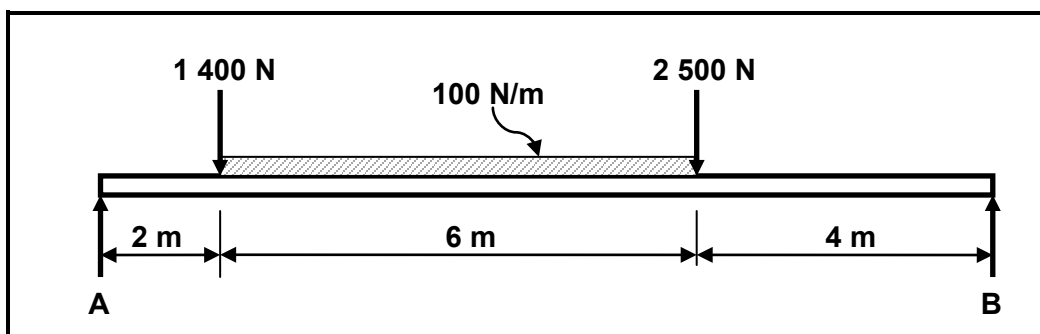

FIGURE 7.3
7.4 FIGURE 7.3 below shows a uniform beam that is supported by two vertical supports, **A** and **B**. Two vertical point loads are exerted onto the beam, as well as a uniformly distributed load of 100 N/m, over a length of 6 metres of the beam.